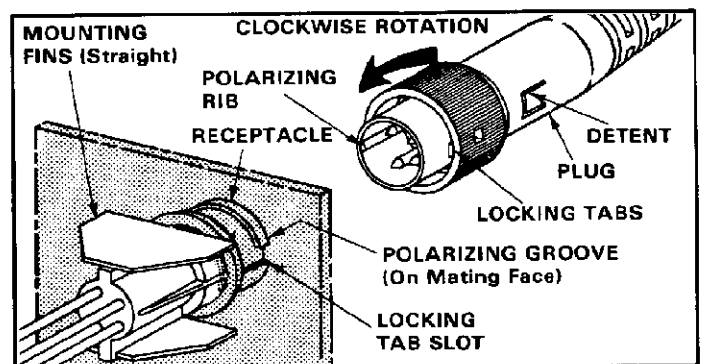

Fig. 3
6. Allow mounting fins to spring away from center until straight — do NOT allow them to bow toward center. See Figure 3.